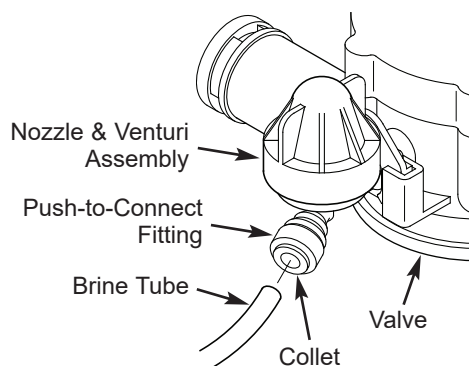
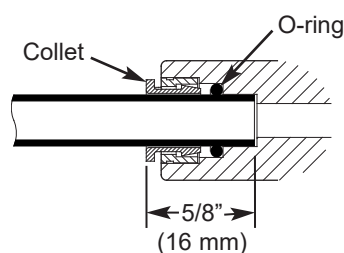

FIG. 13
FIG. 15
- c. Connect brine tube by inserting end into push-to-connect fitting on the valve's nozzle & venturi assembly (See Fig. 13). Push it until at least 5/8" (16 mm) of tube is inserted (See Fig. 15).